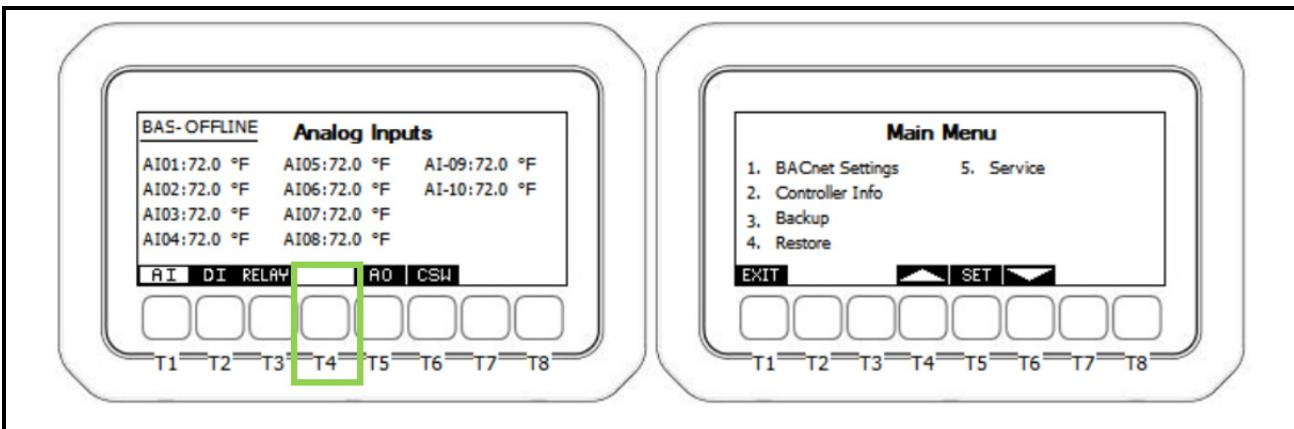

Figure 3-8 - Visograph Main Menu
To enter the Main Menu, the display must be on the Analog Inputs screen shown in **Figure 3-8**. Press and hold the **T4** key for three (3) seconds and to access the menu. Use the **T4/T6** keys to move through the list of options and the **T5 SET** key to enter a menu.